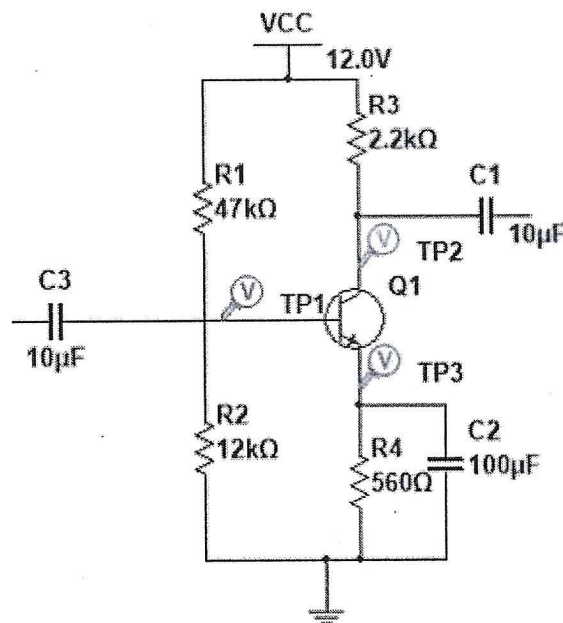

Figure 4
b. Single-stage class A transistor amplifier is shown in figure 4.